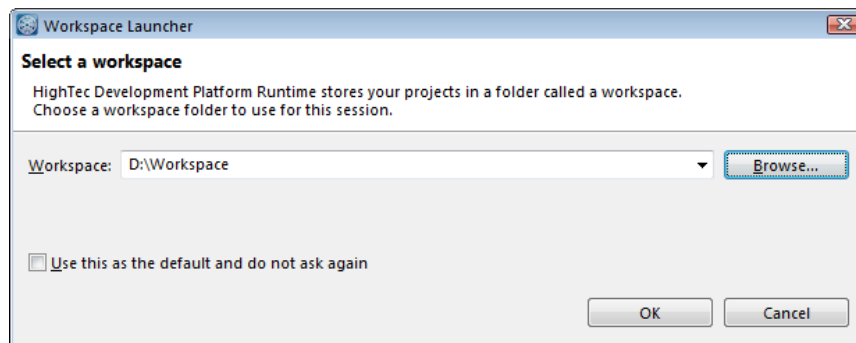

Figure 7 Workspace Launcher
2. Now the Workspace Launcher dialog appears (Figure 7).